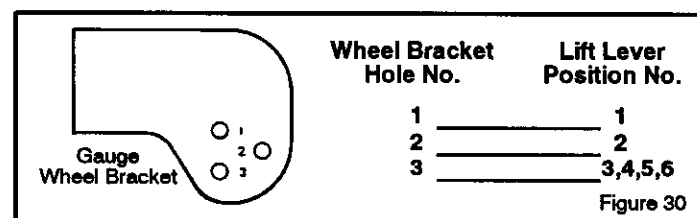

Figure 30
3. Look at each gauge wheel bracket. There are 3 holes in each bracket and a number next to each hole. The number for the height of cut position on the lift lever indicates the correct hole to use on each gauge wheel bracket (Figure 30).
4. Assemble the axle bolts to the gauge wheel brackets using the correct hole in the bracket as indicated (Figure 30).
NOTE: If the height of cut position is changed by the lift lever, you must move the gauge wheels to the correct hole (Figure 30) to keep a level height of cut.